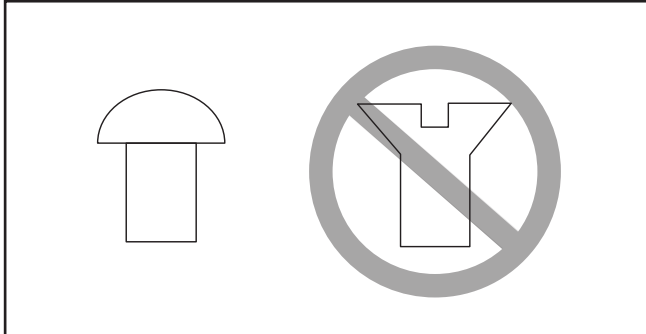

Figure 40. Correct and incorrect screw types for mounting faceplate to workpiece.
- Center the faceplate on the workpiece and attach it through the faceplate holes with non-tapered head wood screws as shown in **Figure 40**.
NOTICE: Only use tap screws or wood screws with non-tapered heads (**Figure 40**) to attach the faceplate to the workpiece. Do NOT use drywall screws or screws with tapered heads because these can split the faceplate, or the screws may snap off during operation.